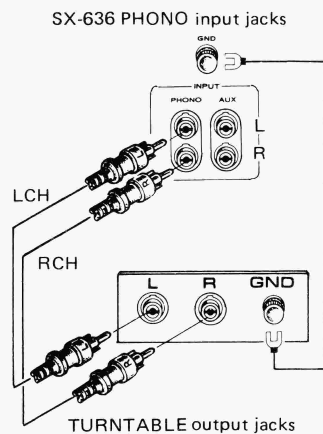

Fig. 7 — Connecting the SX-636 to turntable.
A stereo turntable with a moving magnetic (MM) cartridge can be connected to the PHONO input jacks (Fig. 7). The upper jack is for the left channel output cable from the turntable, and the lower jack for the right channel cable. The ground wire or plug from the turntable should be connected to the GND terminal of the Receiver.